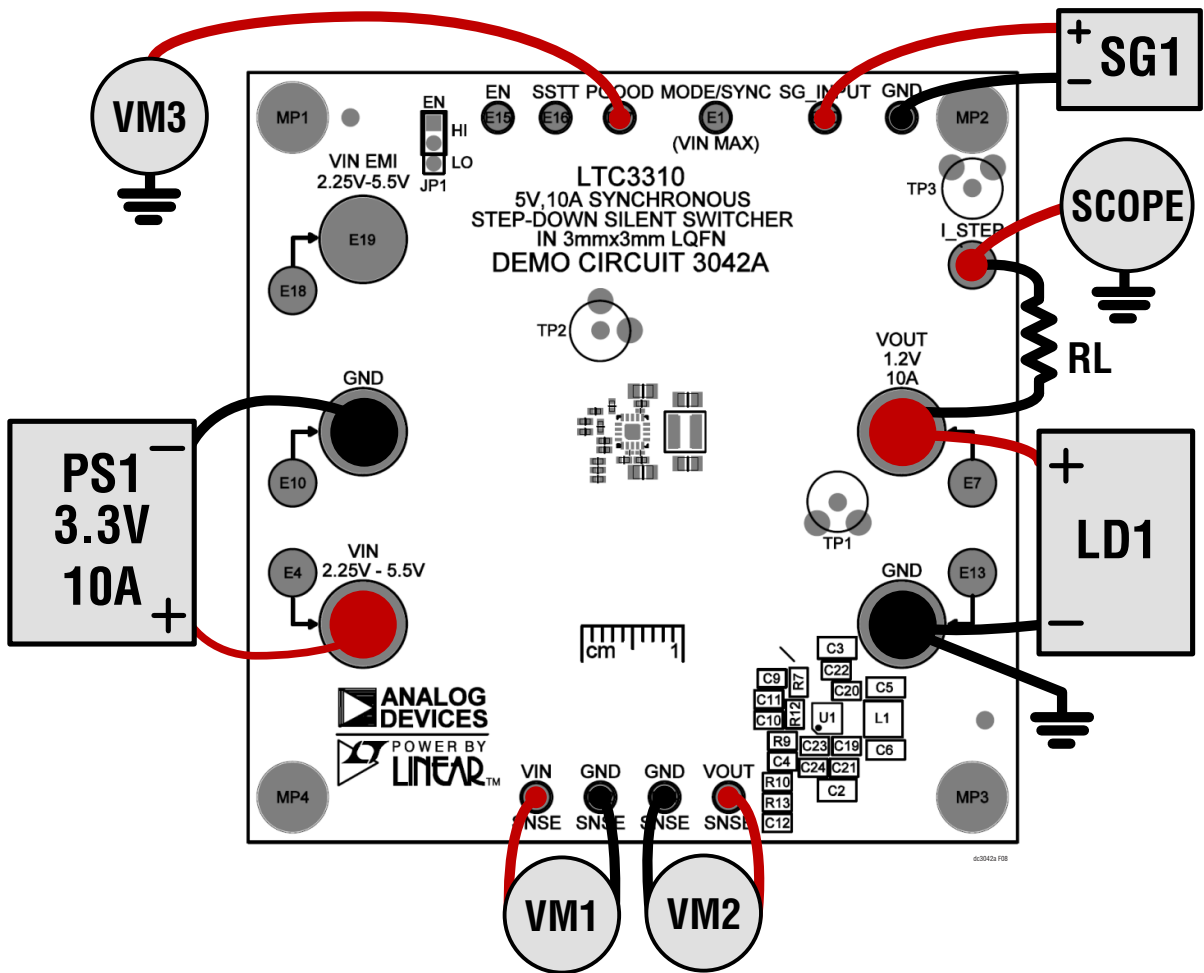
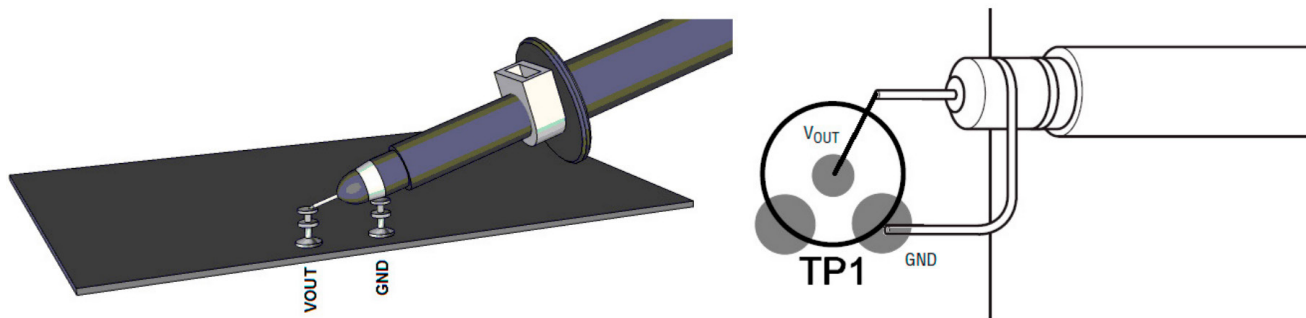

Figure 8. Test Setup for DC3042A
Figure 9. Technique for Measuring Output Ripple and Step Response
Refer to Figure 8 for the proper measurement equipment setup and follow the procedure below.
NOTE: For accurate V_{IN} , V_{OUT} and efficiency measurements, measure V_{IN} at the V_{IN} SNSE and GND SNSN turrets, and measure V_{OUT} at the V_{OUT} SNSE and GND SNSE turrets as illustrated as VM1 and VM2 in Figure 8. When measuring the input or output ripple, care must be taken to avoid a long ground lead on the oscilloscope probe. Measure the output voltage ripple by touching the probe tip directly across the output turrets or to TP1 as shown in Figure 9.
3. Set power supply PS1 current limit to 10A. Set the electronic load LD1 to CC mode and 0A current. Slowly increase PS1 to 1.0V. If PS1 output current reads less than 20mA, increase PS1 to 3.3V. Verify that VM1 reads 3.3V and VM2 reads 1.2V. Check VM1, VM2, VM3, PS1 output current and LD1 input current. Connect an oscilloscope voltage probe as shown in Figure 9. Set channel to AC-coupled, voltage scale to 20mV and time base to 10 μ s. Check V_{OUT} ripple voltage. Verify that PGOOD voltage is above 3V.
8. To test the transient response with a base load, add the desired resistor to produce a minimum load between V_{OUT} and I_STEP turrets (RL shown on Figure 8). Note that the total load resistance will be RL plus R14 (100m Ω). Adjust a signal generator with a 10ms period, 10% duty cycle and an amplitude from 1V to 2V to start.